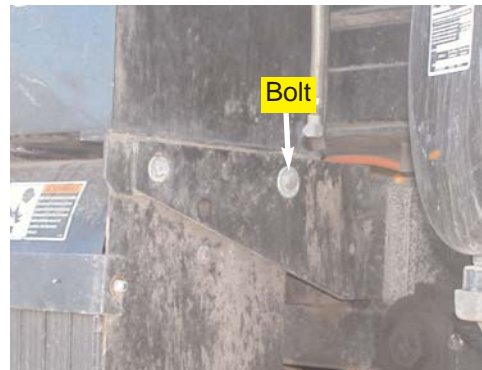

Figure 2a. Remove bolt.
- a. Locate and remove the bolt closest to the frame on the front side of the battery case support. (Figure 2a.)